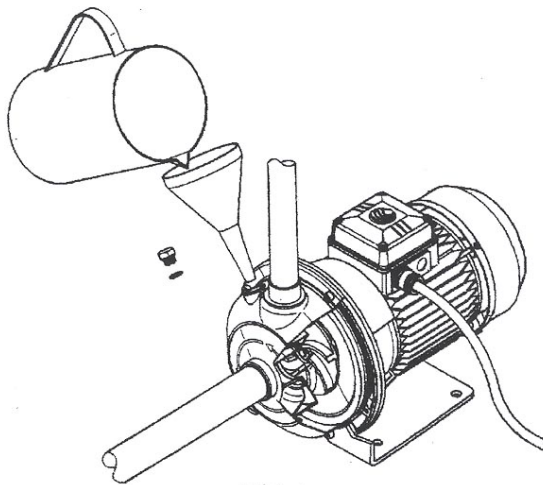

FIG. 4
**WARNING** - The pump must be filled with water (see figure 4 below) before starting. Dry running even for a short time would seriously damage the mechanical seal.